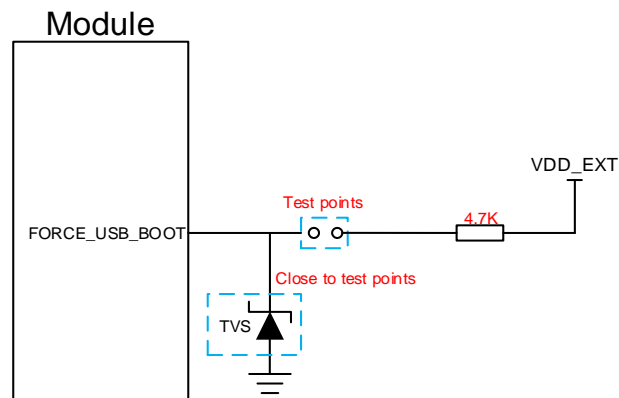

Figure 27: Reference Circuit of FORCE_USB_BOOT Interface
2. When using MCU to control module to enter the forced emergency download mode, please follow the above timing sequence. It is not recommended to pull up FORCE_USB_BOOT to 1.8V before powering up the VBAT. Directly connect the two test points as shown in **Figure 27** will